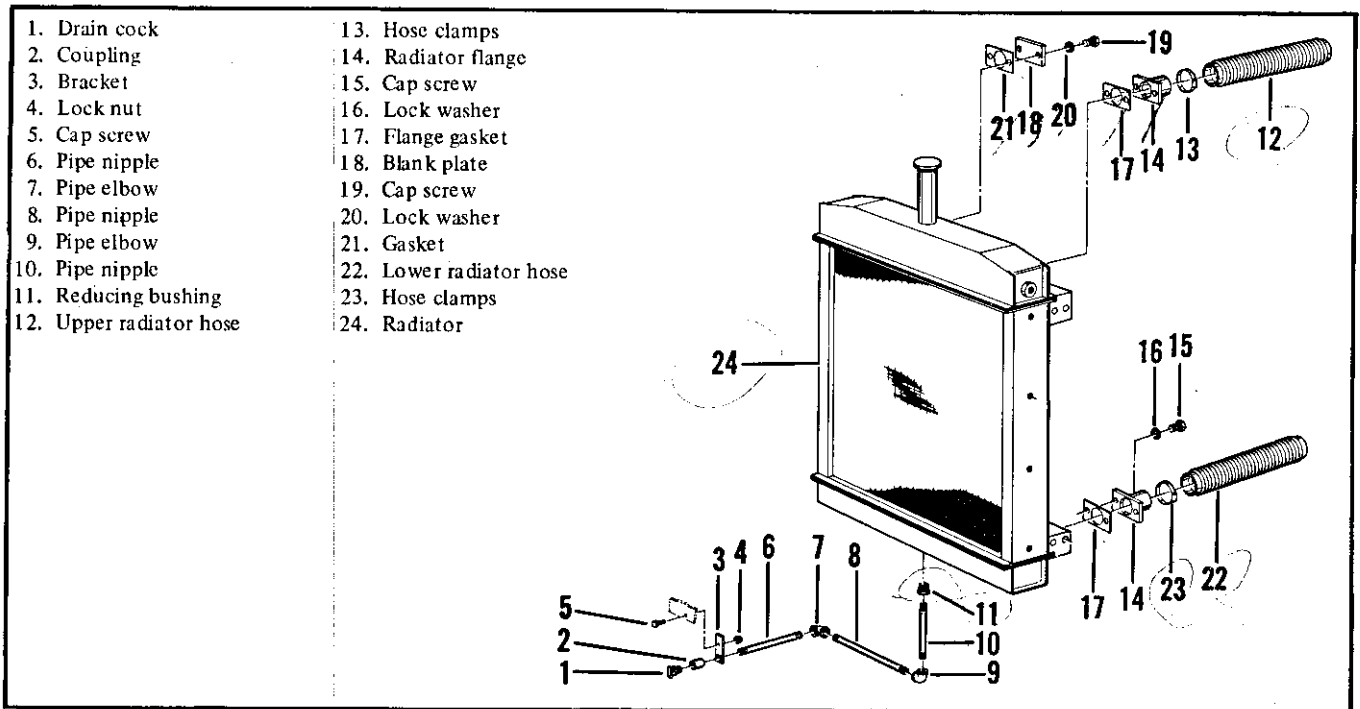

Figure 5-3. Radiator hoses and drain
5-18. **RADIATOR HOSES AND DRAIN** (Figure 5-3). Remove the radiator cap to allow a free flow of coolant from radiator drain and disassemble parts in the following sequence, as necessary.
a. Open drain cock (1, figure 5-3) and drain coolant from radiator. As necessary, remove drain cock (1), coupling (2), nipple (6), elbow (7), nipple (8), elbow (9), nipple (10), and bushing (11). Remove lock nut (4), and cap screw (5) to remove bracket (3). Inspect for damaged threads and cracks. Replace all damaged drain components.
b. Loosen hose clamps (13) and remove upper radiator hose (12). Inspect hose for breaks and hardening. Inspect clamps for damage. Replace defective hose and clamps.
c. Loosen hose clamps (23) and remove lower radiator hose (22). Inspect hose for breaks and hardening. Inspect clamps for damage. Replace defective hose and clamps.
d. If necessary because of leakage, remove cap screws (15), lock washers (16), and radiator flange (14). Replace gasket (17). Remove cap screws (19), lock washers (20), and blank plate (18). Replace gasket (21).